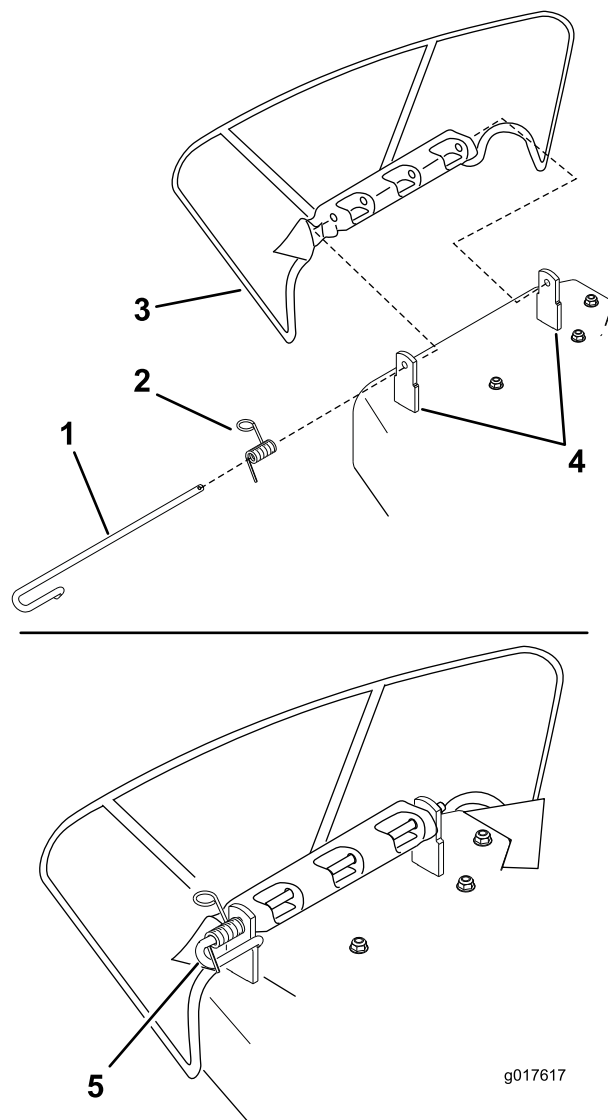

Figure 60
1. Disengage the spring from the notch in the deflector bracket and slide the rod out of the welded deck brackets, spring, and discharge deflector (Figure 60). Remove the damaged or worn discharge deflector.
2. Position the new discharge deflector with the bracket ends between the welded brackets on the deck as shown in Figure 60.